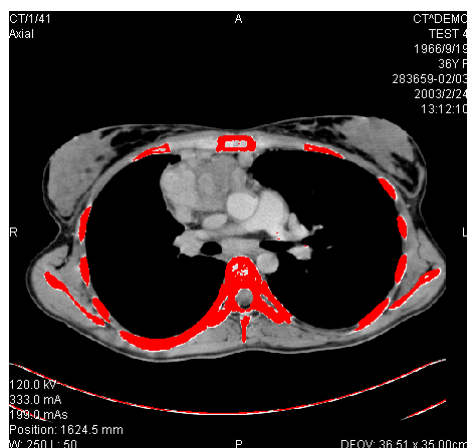

Figure 254 – Segmented image with threshold selection, contouring bones
4. Select the **Lower** and **Upper** grayscale values for the search process. All grayscale values within the selected threshold value range will be considered as matching. This can be seen in the current view – the matching regions are displayed in red while the remainder appears in black (see Figure 254).